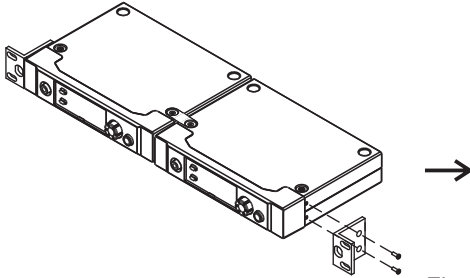

Fig. 15
- (C) Install and fasten with receiver rackmount kit. Fig. 15
- (D) Optional FB-10 rackmount kit.